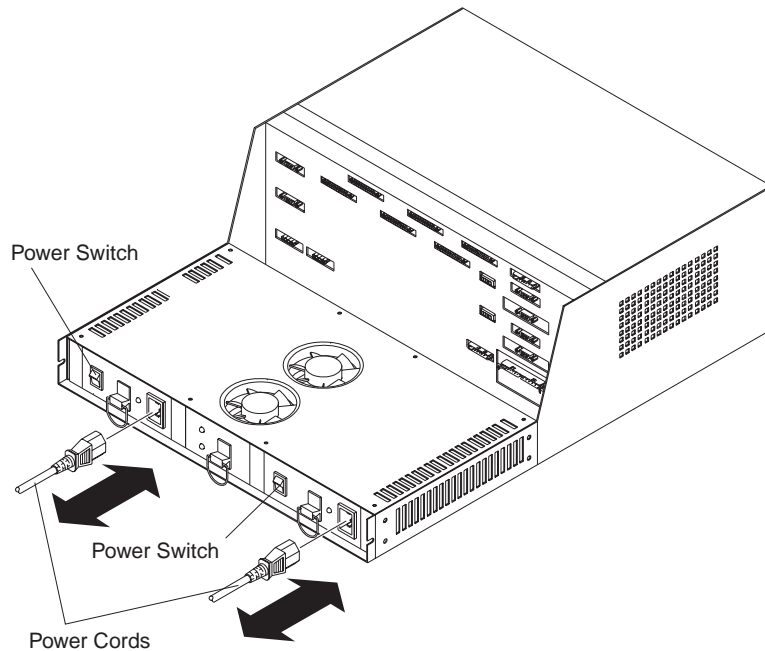

Figure 13. Power cords and power switches
1. Make sure that both power switches on the controller unit are turned off (see Figure 13 on page 21).
2. Plug both power cords into the controller unit (see Figure 13 on page 21).
- c. Both power switches on the back of the controller unit (see Figure 13 on page 21)